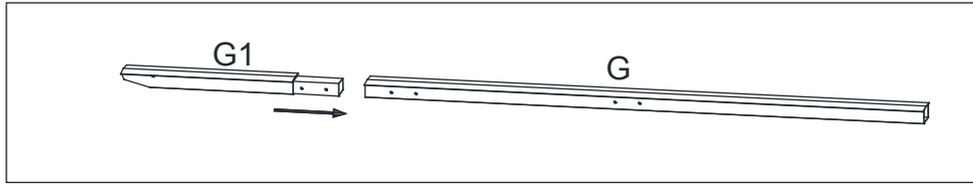

Fig 14
- 7.1. Connect the Long-Top Bar (G) to the Long-Top Connecting Tube (G1), as seen in Fig 14.